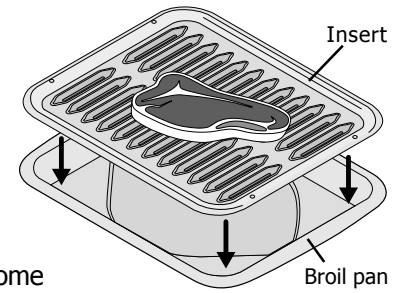

Fig. 2
5. Place insert on the broil pan (if equipped), then place the food on broil pan insert (if equipped - See Fig. 2).